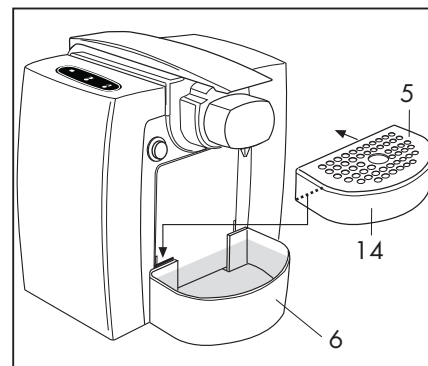

Fig.5
- Remove the grid (5). **(Fig. 5)**
The grid height (5) can be adjusted depending on the cup size. You can choose two different positions. To adjust the grid to its maximum height, lift the support (14), place it against the pods collection box, and drive it into its seat **(Fig. 5)**.